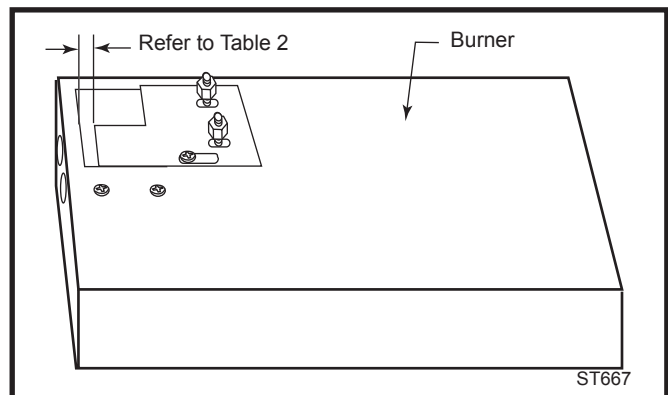

Fig. 54 Adjust air shutter according to Table 2.
4. Air shutter adjustment. The unit is shipped from the factory with the air shutter open 1". For LP units only, the air shutter could be closed further. Refer to Table 2 for minimum air shutter opening. The air shutter is located on the bottom of the burner to the left. Unfasten the two nuts holding the shutter in place. Adjust the air shutter as needed according to Table 2. (Fig. 54)